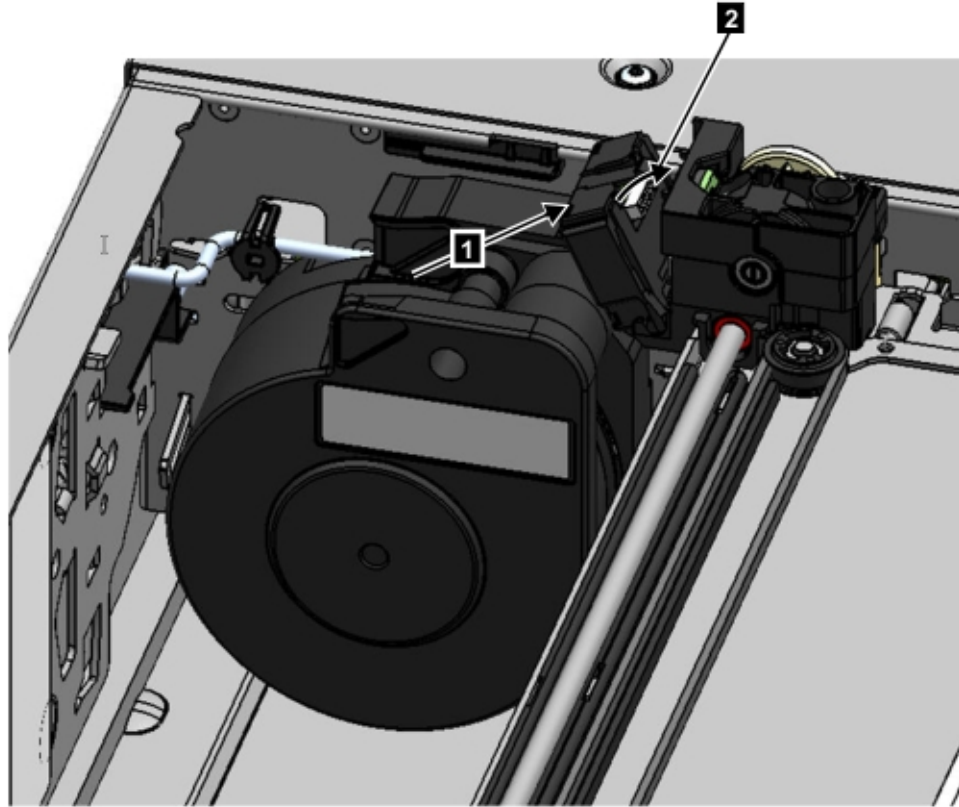

Figure 77. Installing the spooling cable
5. Place the spooling cable into the grooves where it attaches to the accessor and rotate it until it snaps into place. See Figure 77 on page 126.